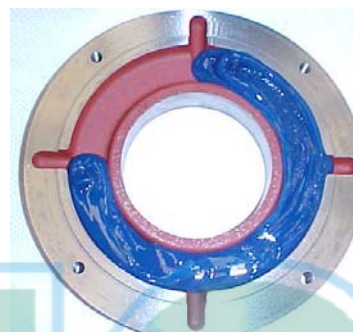

Figure 7.5: Outer bearing cap
- Fill up to $\frac{3}{4}$ of the inner and outer bearing cap deposits with the recommended grease (Figure 7.5) and lubricate the rolling bearing with enough grease before assembling it;
When the bearing is opened, inject the new grease through the grease nipple to expel the old grease found in the grease inlet tube, and apply the new grease in the rolling bearing, to the inner and outer rings, filling $\frac{3}{4}$ of the empty spaces, as shown in Figure 7.5. In case of double bearings (ball bearing + roller bearing), also fill $\frac{3}{4}$ of the empty spaces between the intermediate rings; Never clean the rolling bearing with cotton-based cloths, because they leave some lint, working as solid particles.